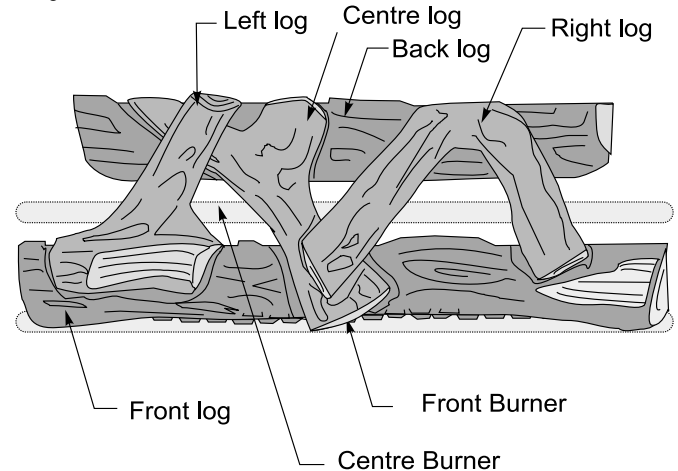

Figure 24b. Proper log placement.
4. Place the top logs in position as shown in figure 24b, place the centre log down first, then the right and left logs.